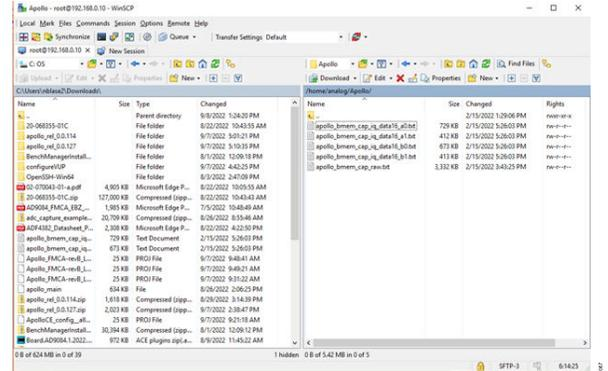

Figure 64. WinSCP Files Storage
3. The full chip example establishes both the transmit and receive links to transmit a signal out of the DACs and to capture signals through the ADC. The signal captured by the ADC is saved as a list of integers (samples) in a .txt file, located in /home/analog/Apollo. If this directory is not already present on the MicroZed board microSD card, create it manually before running the API examples that store ADC samples. To transfer the captured samples to your PC for further analysis, open WinSCP and drag the files over (see Figure 64).